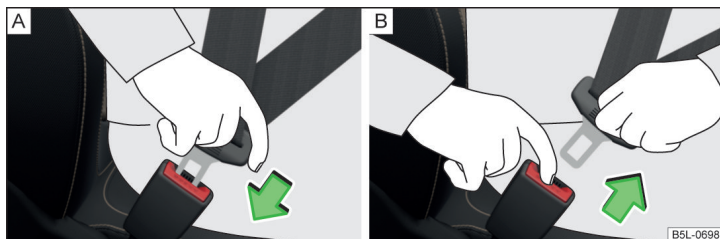

Fig. 7 Fastening / unfastening the seat belt
- Insert the lock tongue into the belt buckle » Fig. 7 - [A] that is part of the seat until it clicks into place.
- Grip the lock tongue and press the red button in the buckle » Fig. 7 - [B], the lock tongue pops out.